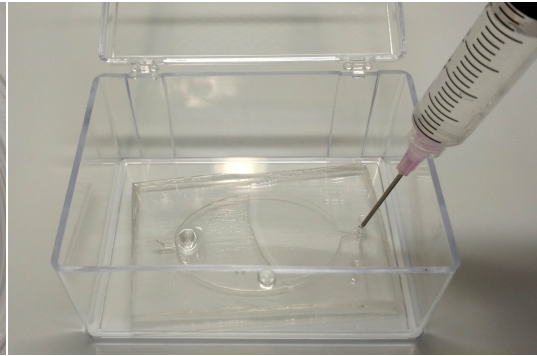

Figure 3-2. Filling the root chamber with growth media.
- 2. Flush the root chamber:** rinse the root chamber three times with the growth media to use. Prepare 5 Ecofabs with 0.5MS+P, 0.5MS-P, and soil extract (1 blank, 4 with plants). The volume of the chamber is approximately 2 ml. Either use a sterile syringe (as shown in Figure 3-2), or a regular pipette with sterilized tips to pipet media through the sampling port. Fill as much medium as possible.